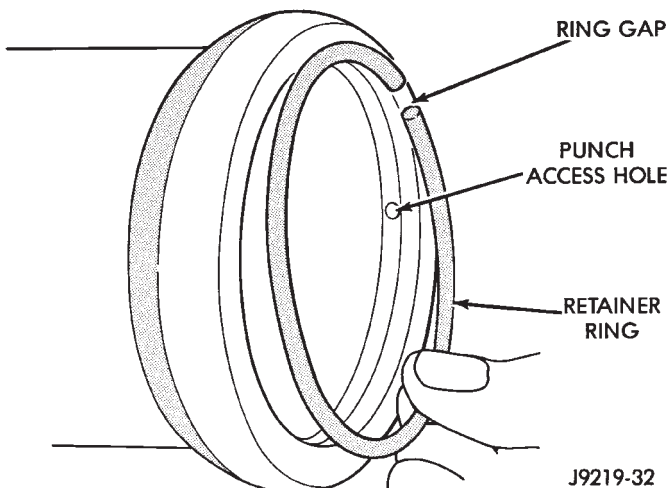

Fig. 5 Installing The Retaining Ring
(1) Lubricate O-ring with power steering fluid and install into the housing.
(2) Install end plug by tapping the plug lightly with a plastic mallet into the housing.
(3) Install retaining ring so one end of the ring covers the housing access hole (Fig. 5).